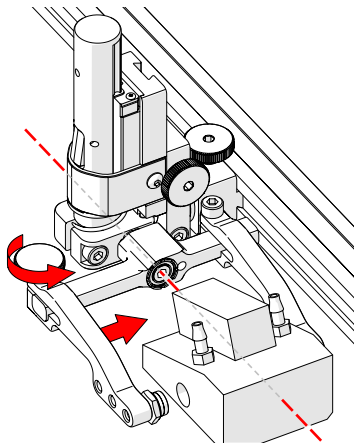

Fig. 45 - Adjust outer arm
5. Loosen the probe holder arm adjustment knob (Fig. 45) and slide the probe holder arm along the yoke pinching the wedge in place.